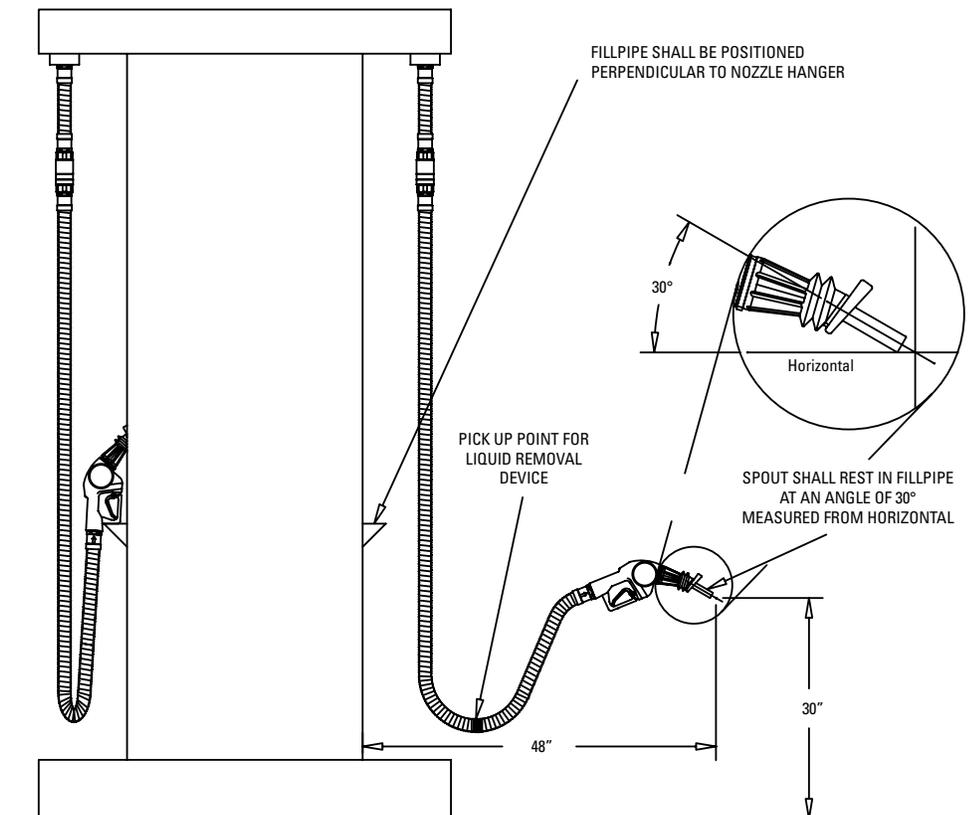

Figure 2. Procedure For Positioning the Liquid Removal Device
This procedure must be followed to insure proper positioning for the liquid removal device in Part Number Series: VDV-EVR (See Figure 2).
2. When the hose and nozzle are held in position as shown in Figure 2, the factory installed liquid removal device indicator mark on the vapor hose must be at the bottom of the loop. If the indicator mark is not at the bottom of the primary hose loop, the installer may choose one of the following options: